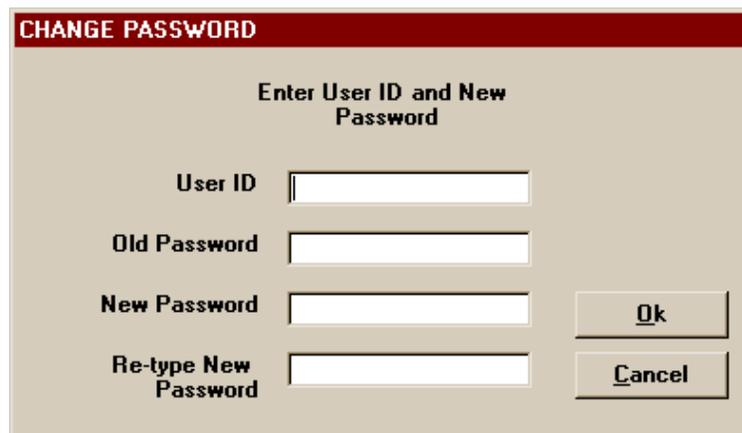

Figure 10. Change Password Screen
3. Use TAB key (or mouse) to select User ID field (refer to Figure 10)